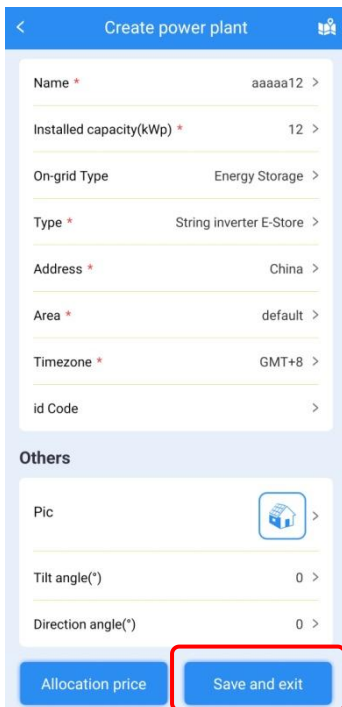

Figure4-3 Create your plant page
Step 5 After entering corresponding information, select "Save and exit" button, as shown in Figure4-3.